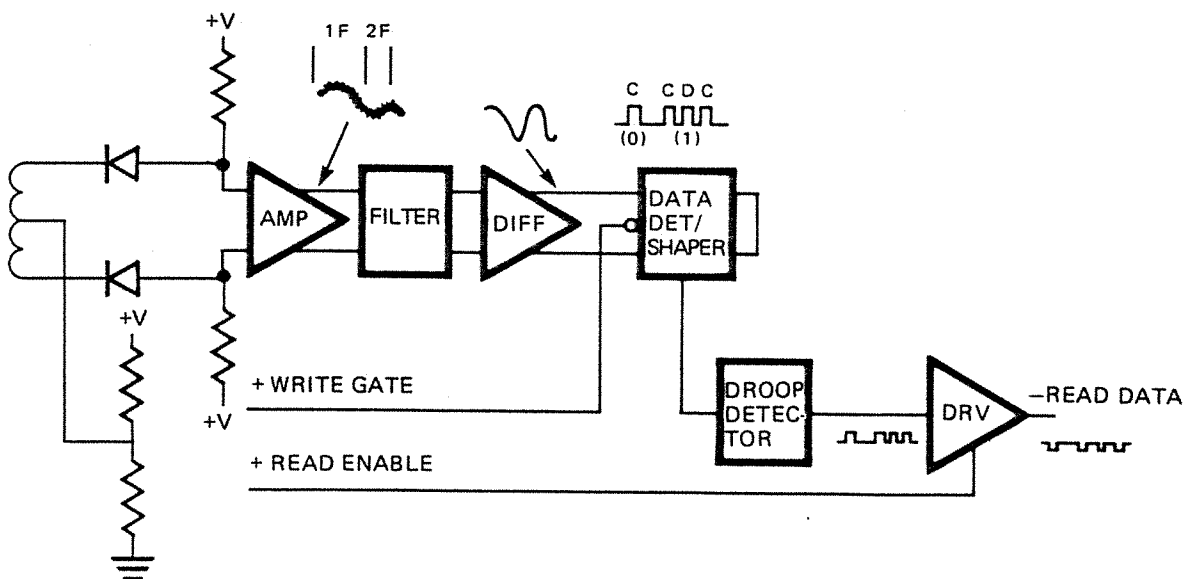

FIGURE 25. READ CIRCUIT FUNCTIONAL DIAGRAM
10.0 READ CIRCUIT OPERATION (FIGURE 25)
10.2 Since a pulse occurs at least once every $8 \mu\text{s}$ and when data bits are present once every $4 \mu\text{s}$, the frequency of the read data varies. The read signal amplitude decreases as the frequency increases. Note the signals on Figure 25. The differential amplifier will amplify the read signals to even levels and make square waves out of the read signals (sine waves).